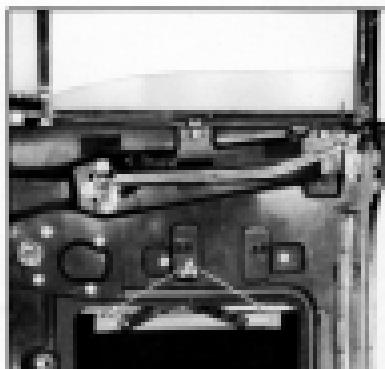

Fig. 57. Disengaging Rail Channel from Case.
- Lower window and remove the two screws from each end of the rail channel to disengage the rail channel from the case. (See "A", Fig. 57). These screws are accessible through the leading hole in door inner panel with window in lowered position.